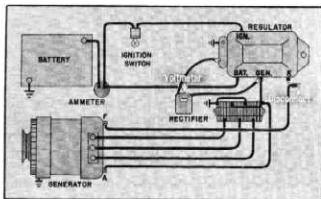

Fig. 40
7. With voltmeter connected (fig. 40) check lead between regulator "GEN" terminal and the generator "A" terminal. A voltmeter reading of battery voltage will indicate a break or ground in this wire.